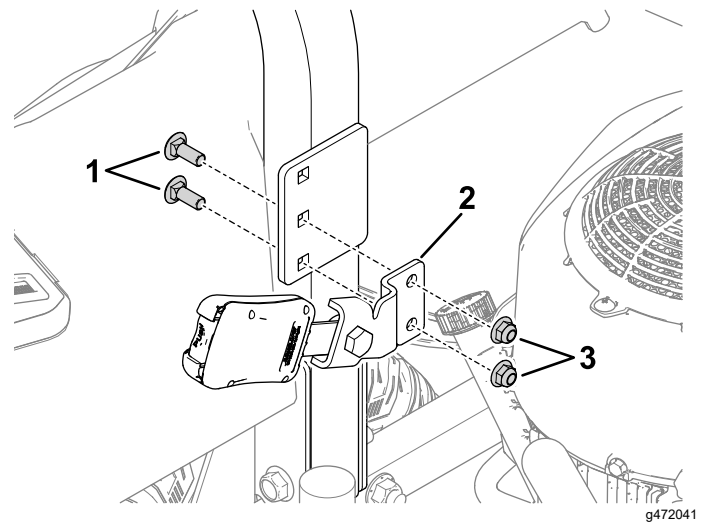

Figure 10
2. Install the buckle assembly from step 1 to the inside of the roll bar bracket using 2 carriage bolts (3/8 x 1 inch) and 2 locknuts (3/8 inch) as shown in Figure 10. Repeat on the other side for the tongue assembly.